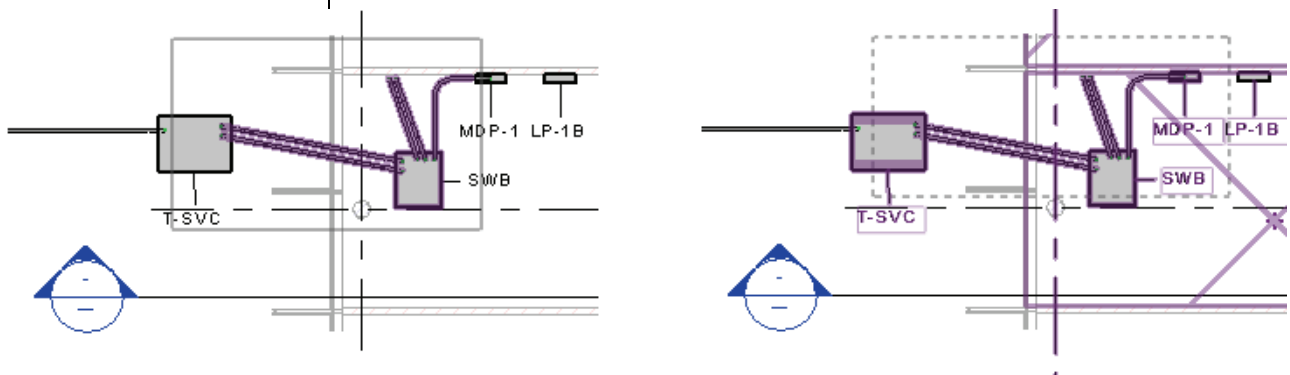

Figure 2–10
- If you click and drag the cursor to *window* around elements, you have two selection options, as shown in Figure 2–10. If you drag from left to right, you only select the elements completely inside the window. If you drag from right to left, you select elements both inside and crossing the window.